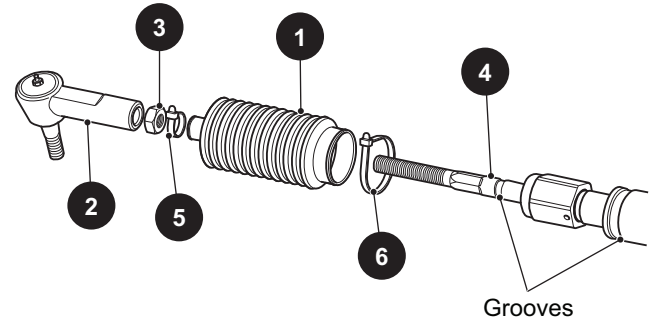

Figure 14 Bellows Replacement
To replace bellows (1) (Ref. Figure 14), first loosen passenger side front wheel and lift and support front of vehicle per SAFETY section.